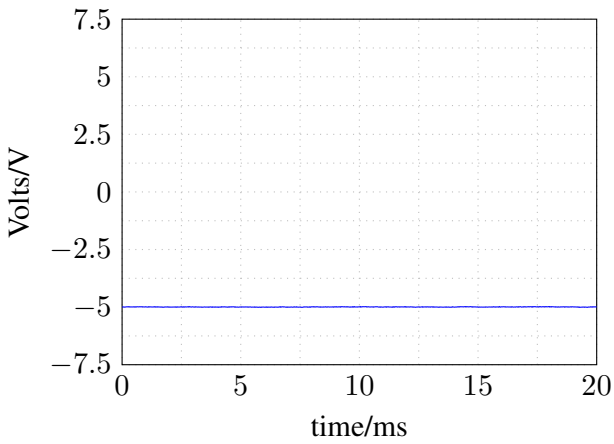

Fig. 30: Expected signal on ENV of the output board with an audio signal at 500 Hz and an amplitude of 1 V on the Line-In jack of the voice preamplifier.
7. Adjust trimmer TR6 until the signal observed on the oscilloscope reads -5 V (Fig. 30).